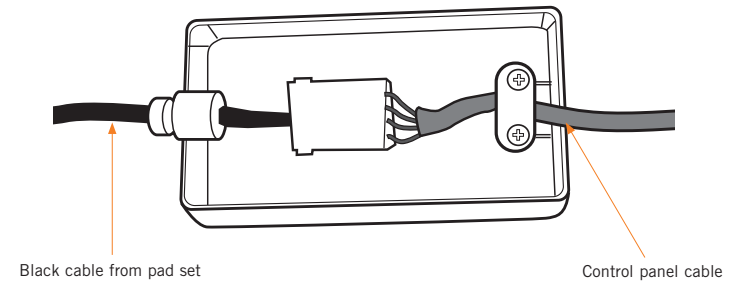

Fig.8
13. Connect the black cable coming from the pad set to the control panel cable (Fig.8).
14. Install the cable strain relief into the connector box slot, push it all the way down, then snap the connector box cover into place to secure it (Fig.8).